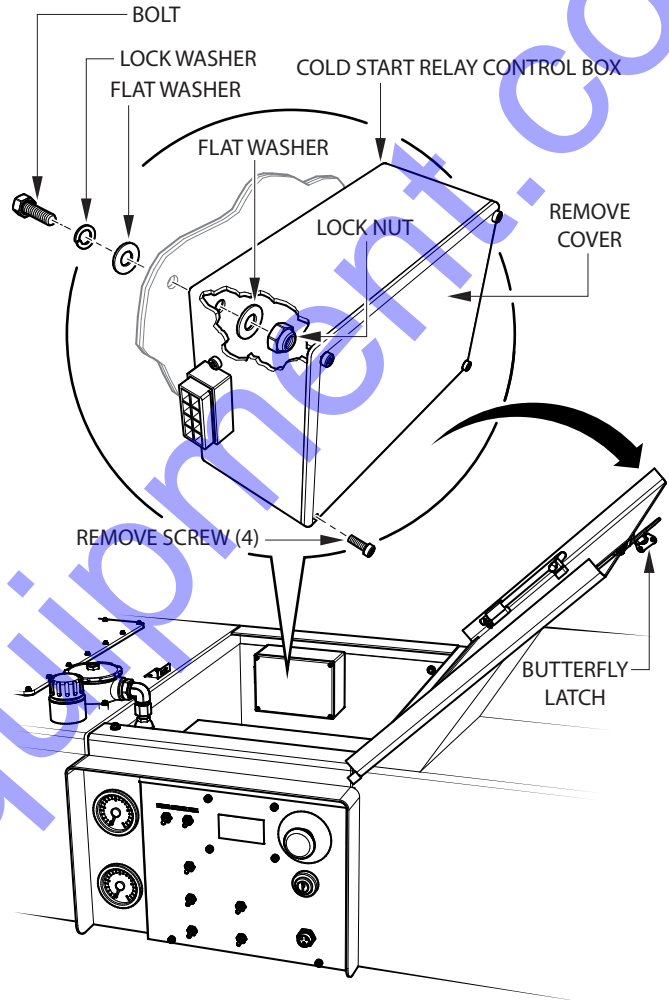

Figure 3. Cold Start Relay Control Box Mounting
- Using a phillip-head screw driver remove the screws (4) that secure the cover (Figure 3) to the Cold Start Relay Control Box
- Mount the Cold Start Relay Control Box using a 1/4-20 X 1 bolt (2), 1/4-inch lock washer (2), 1/4-inch flat washer (4) and 1/4-20 nut (2).